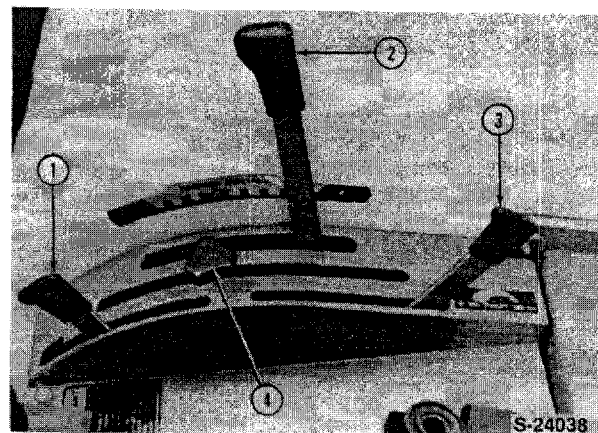

Figure 35
13. Remove the hydraulic and transmission control lever grips, Figures 35 and 36.